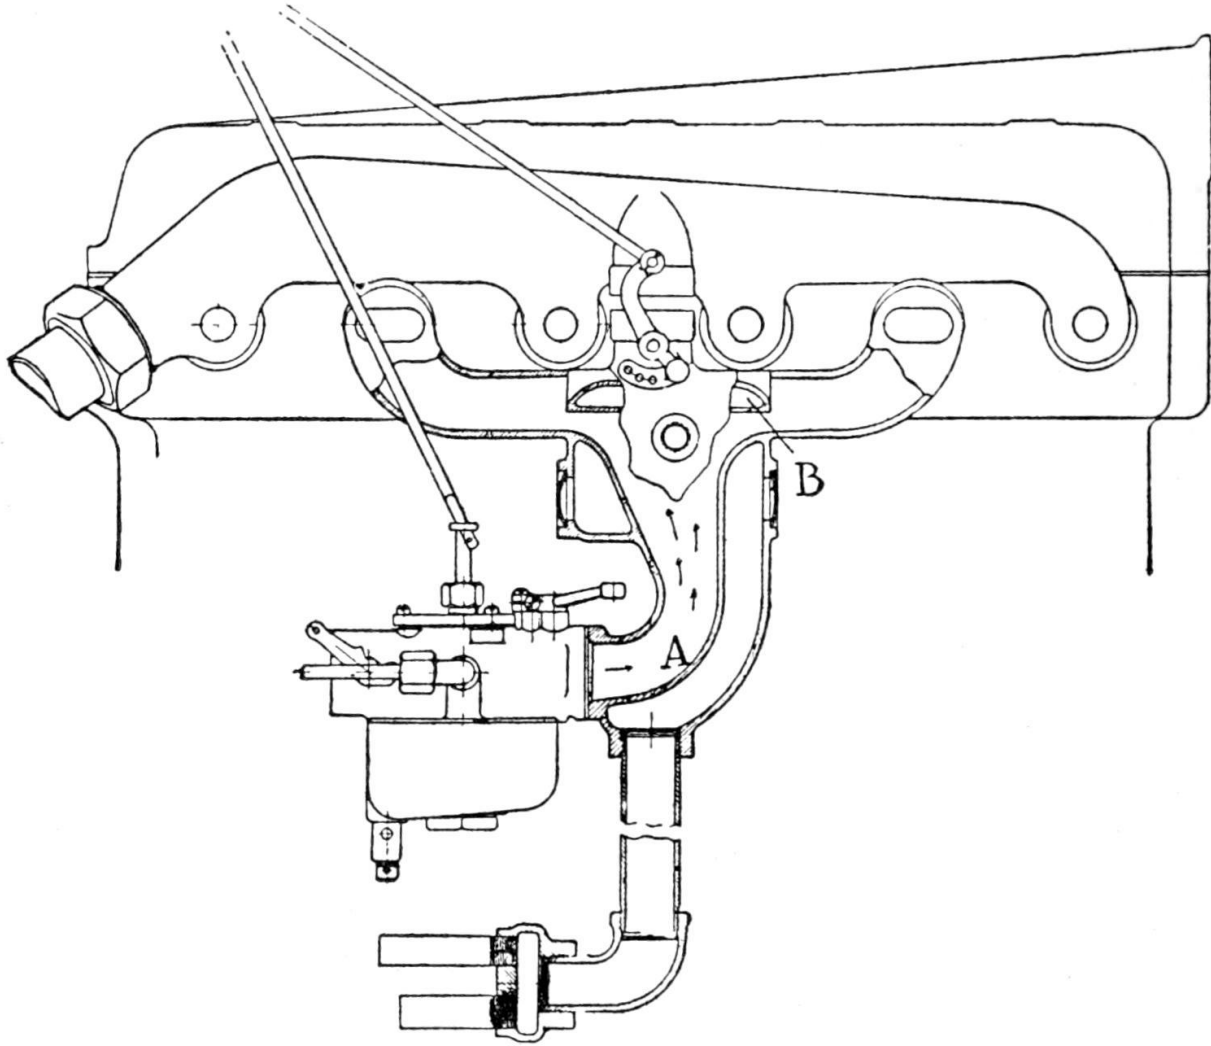

Fig. 46. Holley Vapor Manifold—Ford Cars
Fig. 46 shows the Holley vapor manifold for Ford cars which is intended to completely vaporize gasoline by applying heat at the proper point. As will be noted by the arrows, the exhaust gases pass down, striking a hot-spot at the top of the internal intake passage. The exhaust gases flow along this passage and finally pass out at the bottom. The heavier particles of fuel, after leaving the carburetor, strike against the wall at point (A) and there are broken up by the exhaust gases. Should any of the globules not be broken up at this point, they will be vaporized when they strike the hot-spot at (B) as this is directly in contact with the exhaust gases. It will be noted that the heavier globules are subjected to a rising temperature. Starting at (A) and finishing at (B) a control valve regulates the amount of heat supplied to the intake manifold.